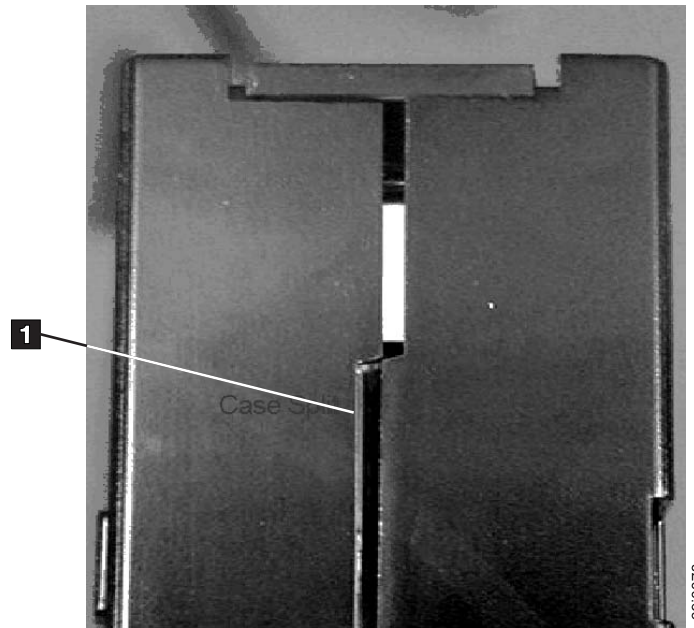
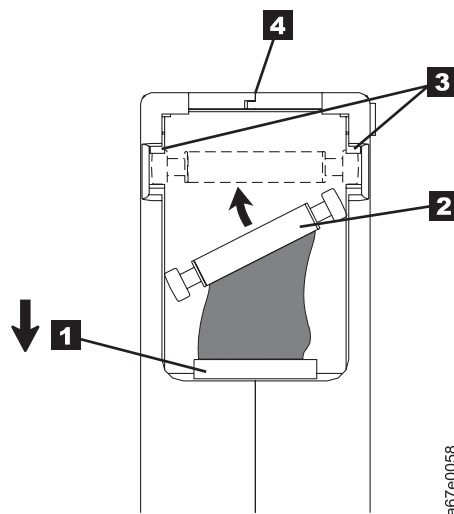

Figure 4-7. Checking for gaps in the seams of a cartridge
Figure 4-9. Placing the dislodged leader pin into the correct position. The cartridge door is open to show the leader pin.
- Inspect the rear of the cartridge (the part that loads first into the tape load compartment) and ensure that there are no gaps in the seam of the cartridge case (see **1** in Figure 4-7 and **4** in Figure 4-9 on page 4-11). If there are gaps in the seam (see Figure 4-7), the leader pin may be dislodged. Go to “Repositioning or Reattaching a Leader Pin” on page 4-10.
Example: Split Cartridge Case (see Figure 4-7)
1. Slide open the cartridge door (**1** in Figure 4-9) and locate the leader pin **2** (you may need to shake the cartridge gently to roll the pin toward the door).